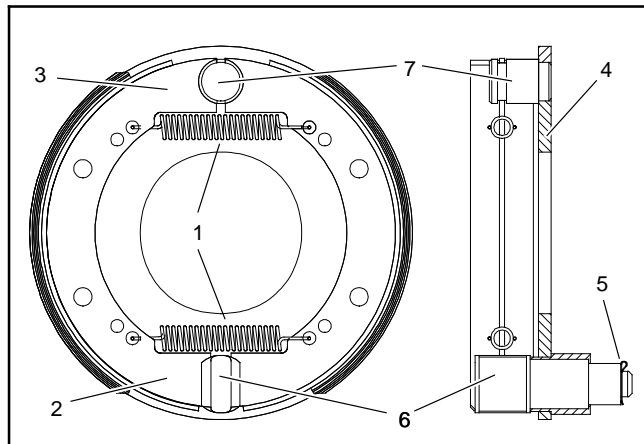

Figure 6
8. Disassemble brake assembly as follows (Fig. 6):
2. Assemble brake assembly as follows (Fig. 6):